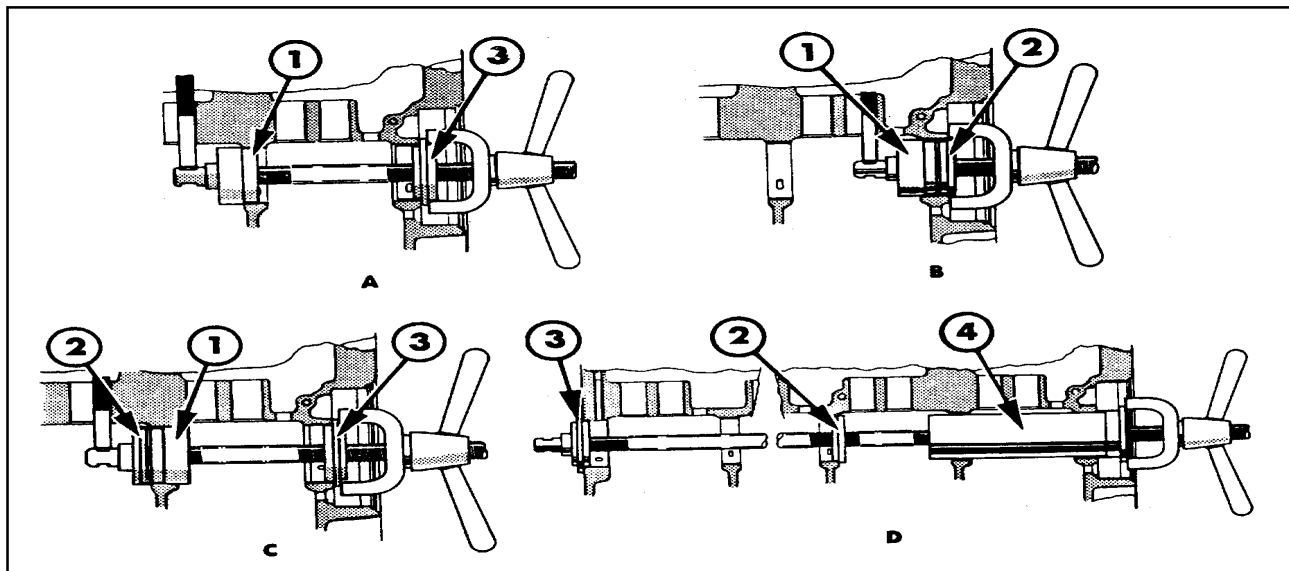

Figure 48
1. Insert the small diameter spigot of the remover and guide, into the rear of Number 2 bearing liner as shown in "A", Figure 48. Position the centralizer, in front of Number 1 bearing with the smaller diameter spigot located in the bearing liner. Pass the center screw of camshaft bush remover through this centralizer and the guide and fit "C" washer to the end of the center screw. Place the tommy bar in the hole at the inner end of the center screw and withdraw the bearing liner from its location in the block by tightening the wing nut of the tool.
- Insert the smaller diameter spigot of the remover and guide in the rear of the front bearing liner, and the intermediate bearing replacer, in the front of the front bearing liner as shown in "B", Figure 48. Install the center screw, lock washer and tommy bar as outlined above and pull out the front bearing liner from its location in the block.
- Insert the remover and guide, into Number 2 bearing bore with the smaller diameter towards the rear of the block. Place the centralizer, in the front of Number 1 bearing bore with the larger diameter spigot located in the bore. Locate the new bearing liner on the smaller diameter spigot of the remover and guide and insert the smaller diameter spigot of the intermediate bearing replacer, into the other side of the liner. Insert the center screw and install the lock washer and tommy bar as shown in "C" Figure 48.
5. Place a new liner on the replacer mandrel so that it contracts the small shoulder, and pass the mandrel through number 1 bore and number 2 bearing liner. Place the intermediate bearing replacer in the rear bore with larger diameter spigot in the bore. Install the center screw and lock washer as shown in "D", Figure 48. Make sure the main tool body is placed vertically for this operation so that the center screw is kept central by the body locating on the spigot of the mandrel.